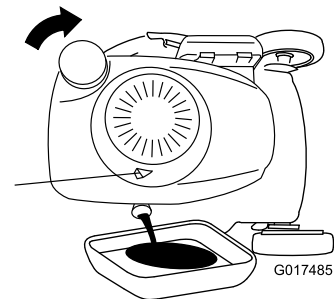

Figure 35
3. Tip the machine onto its side, with the dipstick down, to drain the used oil out through the oil-fill tube (Figure 35).